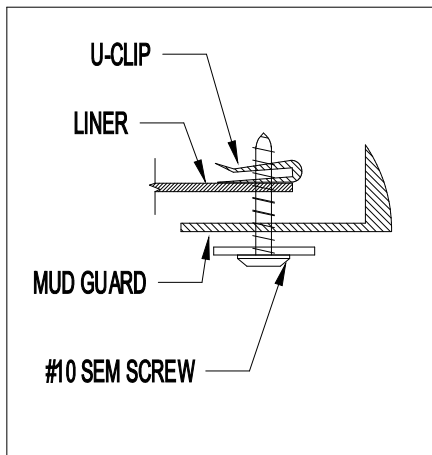

Figure 2
4. Attach the supplied L-bracket to the vehicle at location E with a #10 SEM screw through the hole in the bottom-side of the fender, through the L-bracket and into a u-clip (see figure 2).
5. Install #10 SEM screw at location D through mudguard and L-bracket and into a u-clip on the back side of the L-bracket (U-clip does not clip over the L-bracket) see figure 2.